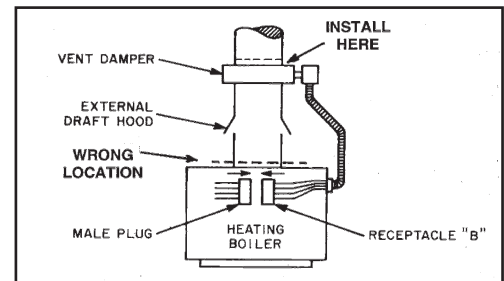

Figure 3. Vertical Installation
- This device must be installed on the outlet end of the draft hood of the boiler as close to the draft hood as practicable, and without modification of the draft hood (see figures 3 through 7).
4. Select a proper, convenient location (see figures 3, 4, 6 and 7).
2. This device must be installed on top of the draft hood or diverter in position as shown in figures 3, 4, 5, 6 and 7. The vent damper must be installed so that the damper position indicator is in a visible location after installation for position indicator description. The arrow imprint on the damper should point in direction of vent gas flow (towards chimney). Flue pipe (other than flue collector on boiler) insertion depth for the male end should not exceed one inch into the vent damper. Be sure the vent damper is well seated and fasten with 3 sheet metal screws. Screws should be no longer than 1/2 inch.